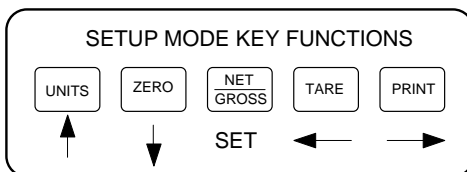

Figure 6-1: Setup Menu Key Assignments
3. Use the four directional keys (shown in Figure 6-1 below) to adjust the displayed value to the actual test weight value. Increase the flashing digit by pressing the UNITS key. Decrease the flashing digit by pressing the ZERO key. Pressing the PRINT key or the TARE key will change the position of the flashing digit.
2. The display will momentarily show **"CAL 0"**, followed by a flashing zero. Use the four directional keys (shown in Figure 6-1) to adjust the displayed value to the zero calibration value.
2. The display will momentarily show "**CAL 1**", followed by a flashing zero. Use the four directional keys (shown in Figure 6-1) to adjust the displayed value to the span calibration value.